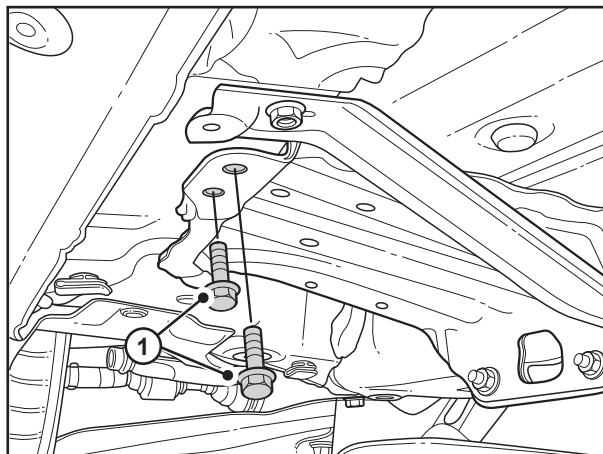

FIGURE 2
- Remove two M10 bolts with washers (1) from the metal pressing on the LH side and retain for future use as shown in Figure 2.